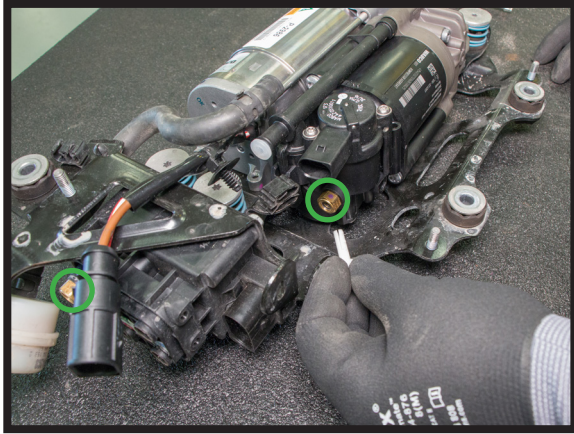

FIGURE 20
4. REMOVE THE WHITE SHIPPING PINS AND INSERT AIR LINE. ROUTE THE AIR LINE FROM THE COMPRESSOR'S VOSS FITTING TO THE VALVE BLOCK'S VOSS FITTING AS SHOWN BELOW. THE STEPS FOR PROPER VOSS FITTING USAGE ARE LOCATED BELOW IN STEP 5. (FIGURES 20, 21, 22)